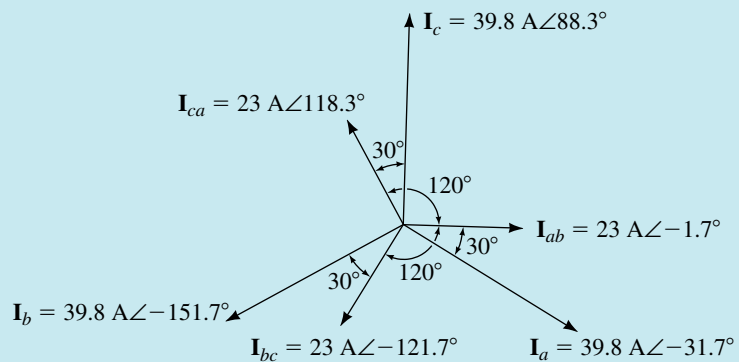

FIGURE 23–14
- Phasors are shown in Figure 23–14.
- For the circuit of Figure 23–13, if $\mathbf{I}_a = 17.32 \text{ A} \angle 20^\circ$, determine